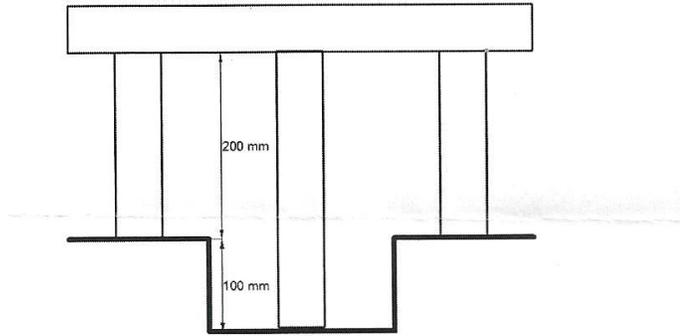

Figure 2a
- 2 a. Two copper rods and one steel rod (center) together support a load as shown in figure 2a. Cross-sectional area of each rod is  $900\text{mm}^2$ . If the stresses in copper and steel are not to exceed 50 MPa and 100 MPa respectively, find the safe load that can be supported. Young's modulus of the steel is twice that of copper. (8)